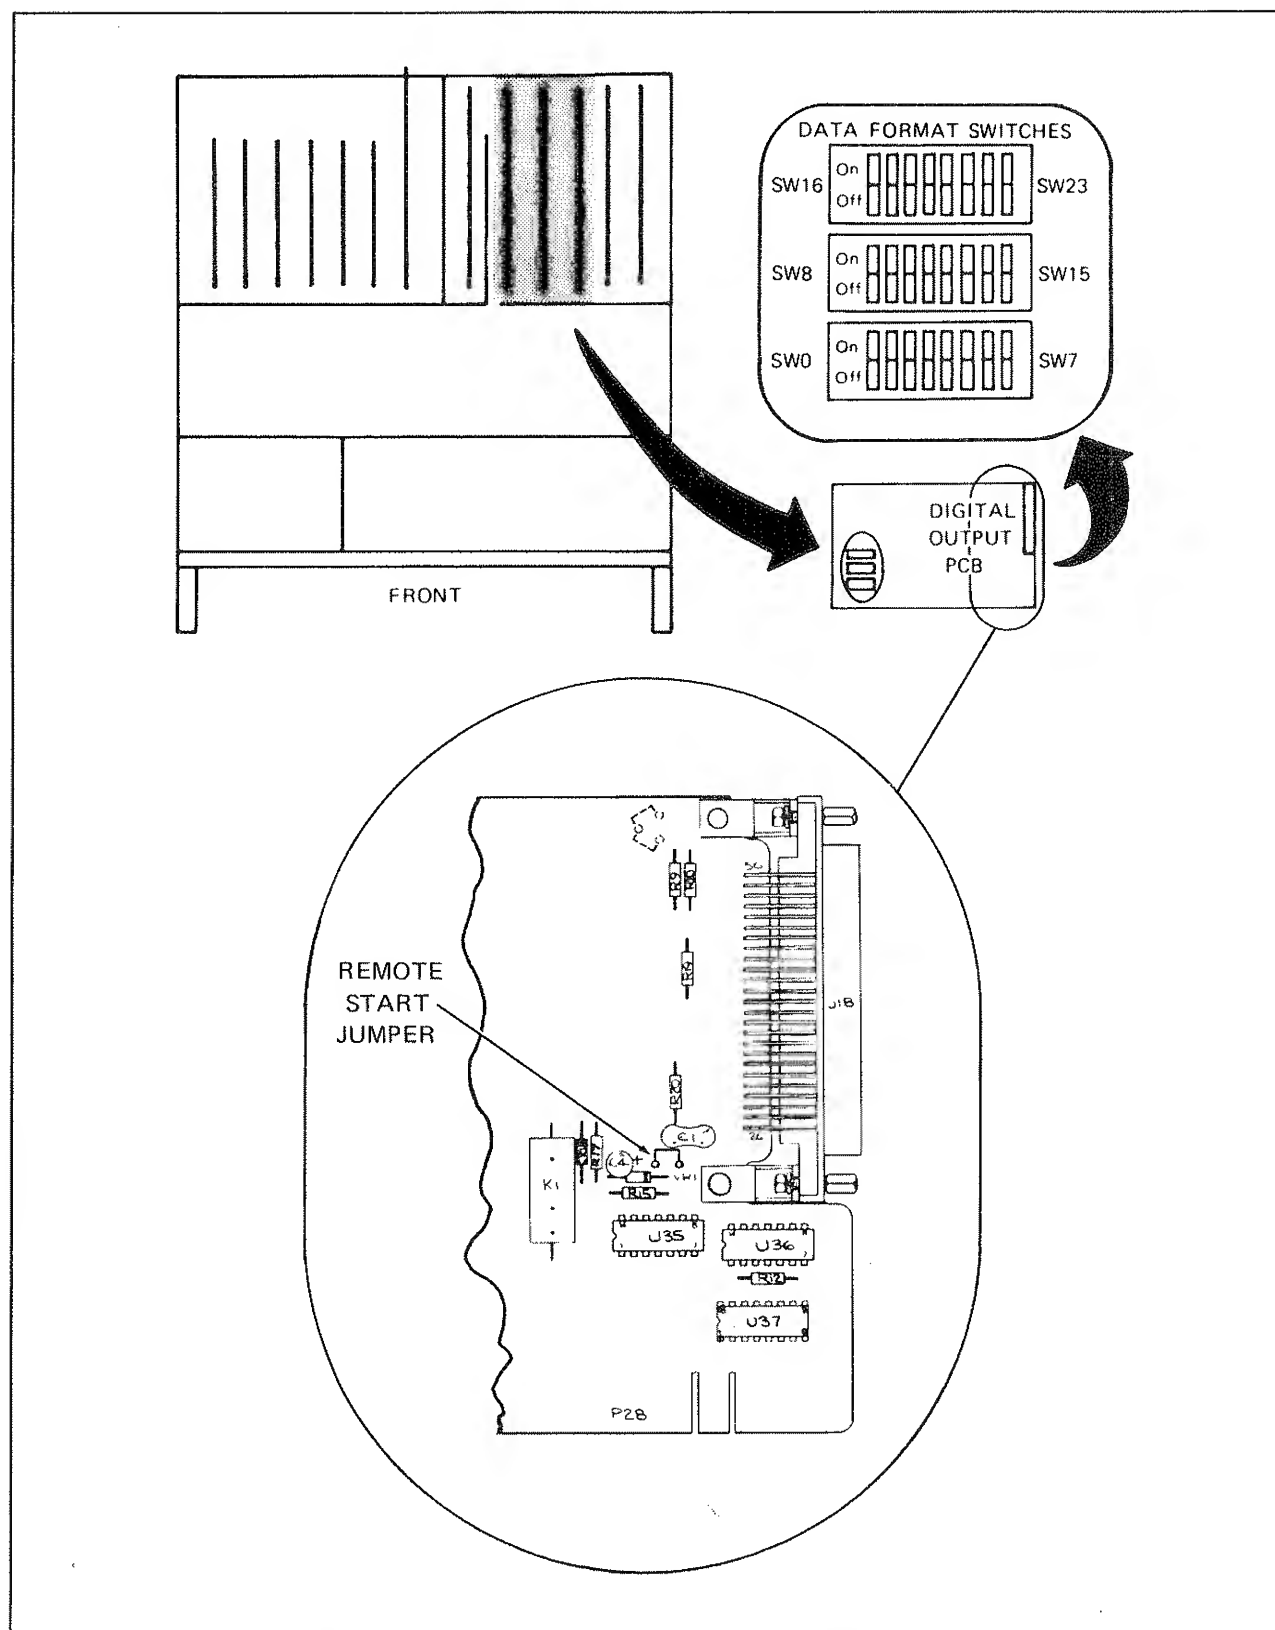

Figure 612-1. Digital Output PCB Installation and Switch Locations
612-12. Up to three Digital Output PCB's can be mounted in the data loggers I/O slots, as shown in Figure 612-1. Install each -12 Series pcb as follows:
3. Remove the inner, unguarded cover and locate the Data Format switches on each -12 Series Digital Output PCB, as shown in Figure 612-1.
Set unused switches (SW20-SW23) to OFF. If remote start capability is required, insure that the remote start jumper is installed on the pcb (refer to Figure 612-1).